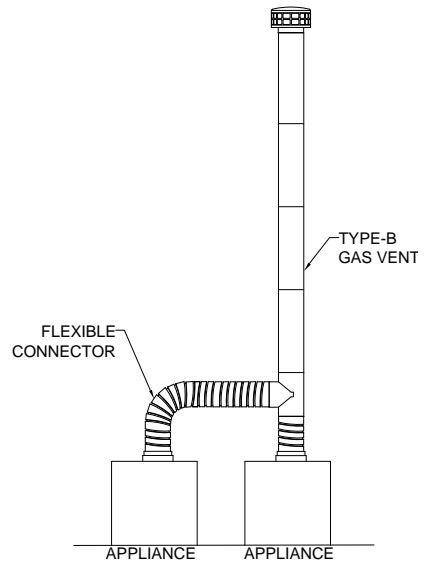

FIG. 5
- b. Multiple appliances (See **FIG. 5**).